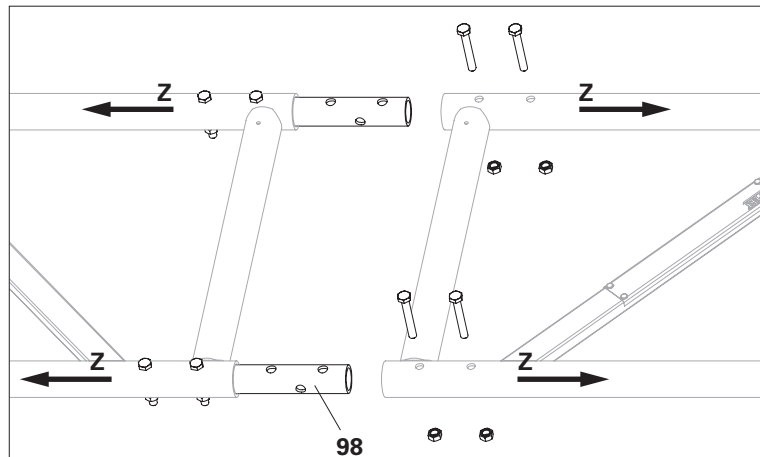

Fig. A11.12a
2. Fit the second formwork girder onto the Connectors ULT and mount each with 2 screws M10 x 70-8.8 with nut. (Fig. A11.12a)